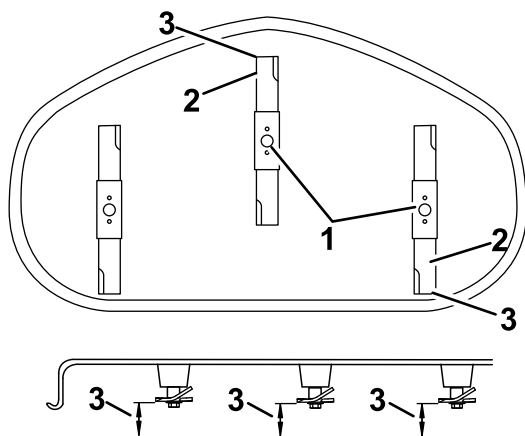

Figure 59
4. Carefully rotate the blades so they are facing front to rear (Figure 59).
5. Measure from the tip of the front blade to the flat surface and the tip of the rear blade to the flat surface (Figure 59).
4. After adjustment, check the front-to-rear slope again, continue adjusting the nut until the front blade tip is 1.6 to 7.9 mm (1/16 to 5/16 inch) lower than the rear blade tip (Figure 59).